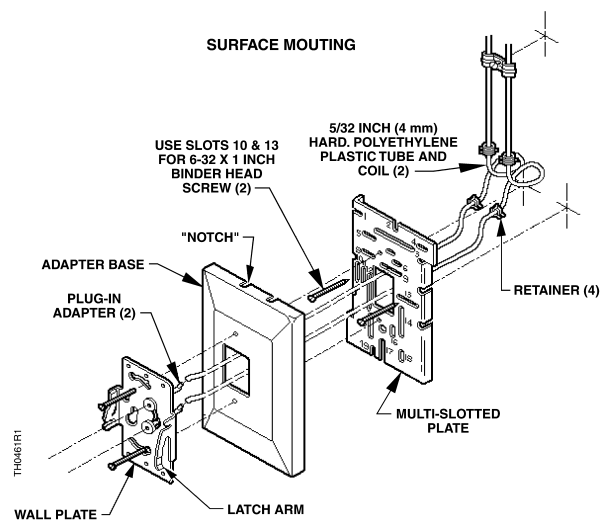

Figure 2. Terminal Head Removed with 1/8-inch O.D. Copper Tubing.
To connect directly to copper tubing, see *Figures 2 and 3*.
2. Place the multi-slotted metal plate into the adapter frame, if required. Attach the multi-slotted plate to the terminal head or the wall using screws and slots shown in *Figures 2 through 5*.